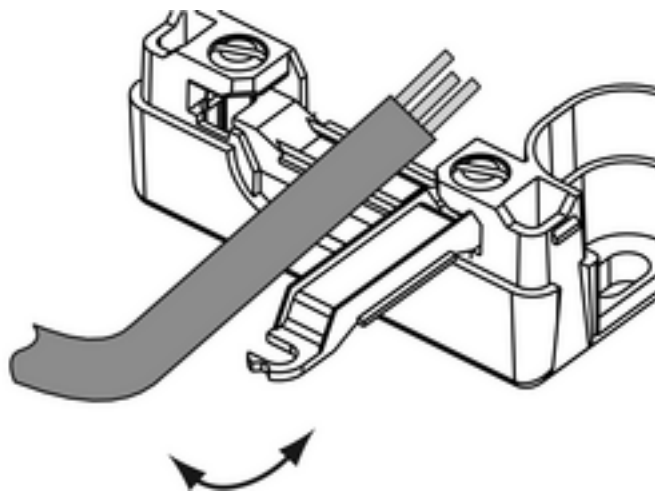

Figure 2: Strain relief
- Ensure strain relief (Figure 2).